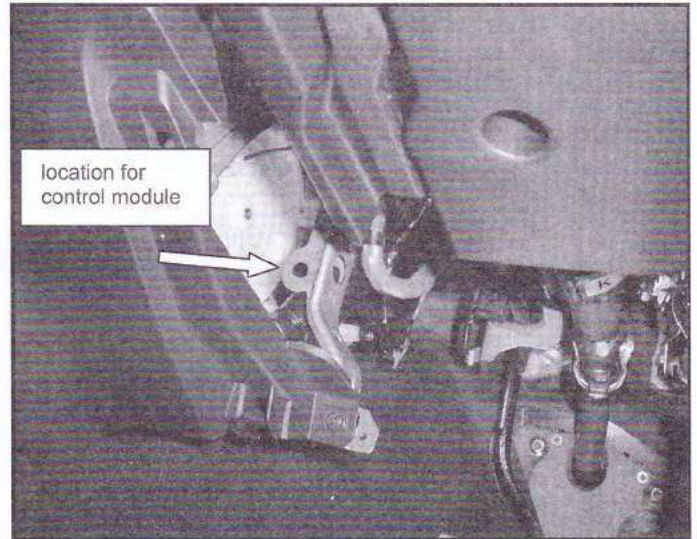

figure 6
8. Locate the unused hole on the support bracket on the LHS of the steering column shaft (refer to figure 6).